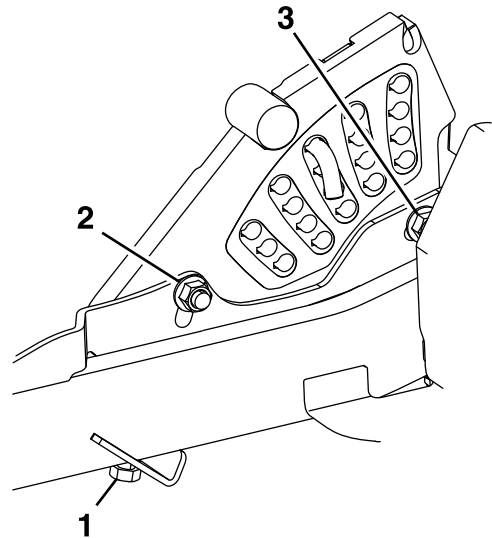

Figure 81
6. To adjust the single-point system, first loosen the front and rear height-of-cut plate mounting bolts (Figure 81).
7. If the deck is too low, tighten the single-point adjustment bolt by rotating it clockwise (Figure 81).